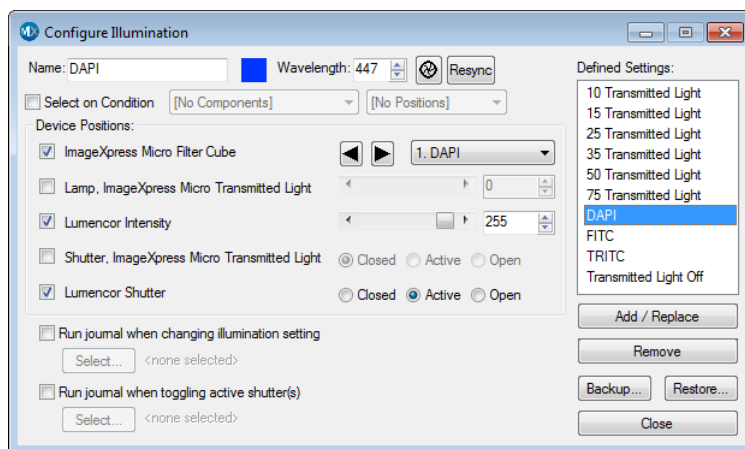

Figure 8-3: Configure Illumination dialog
3. In the **Configure Illumination** dialog, ensure that the illumination device you changed is selected in the **Device Positions** field and select the filter that you installed from the corresponding option field. See Figure 8-3 on page 181.